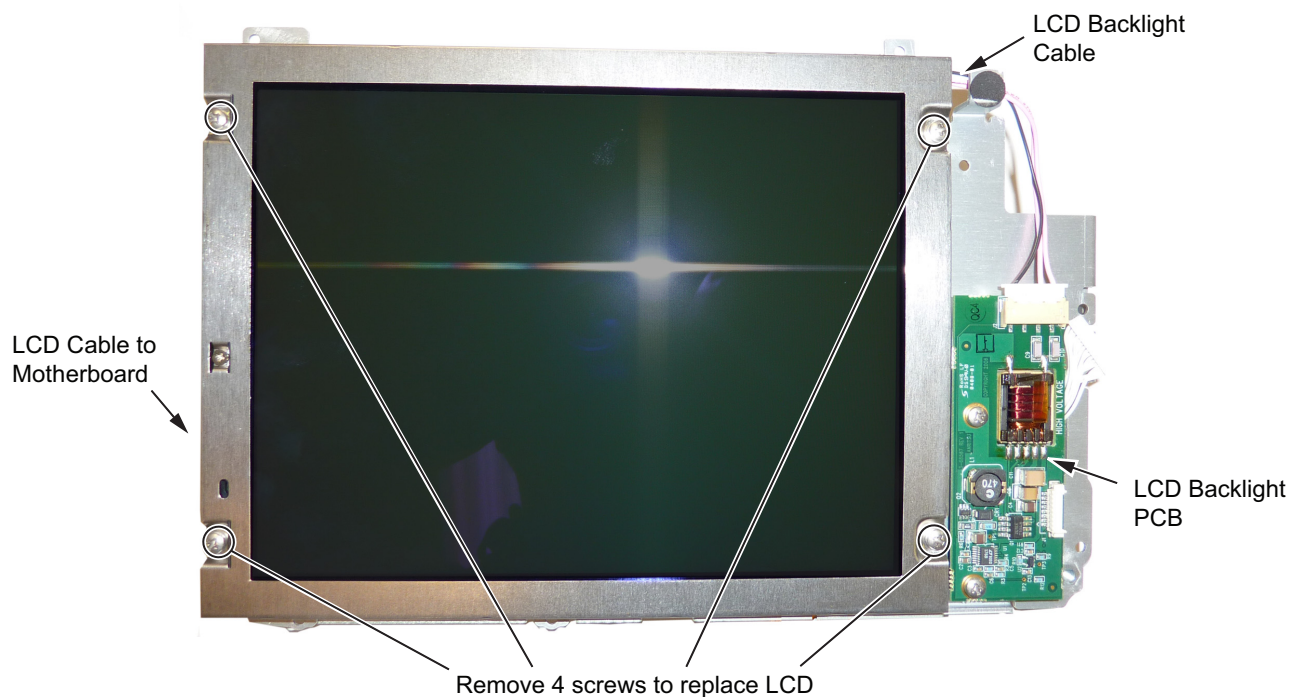

Figure 7-15. Replacing the LCD
- Use a Phillips screw driver to remove the four screws securing the LCD to the housing (Figure 7-15).